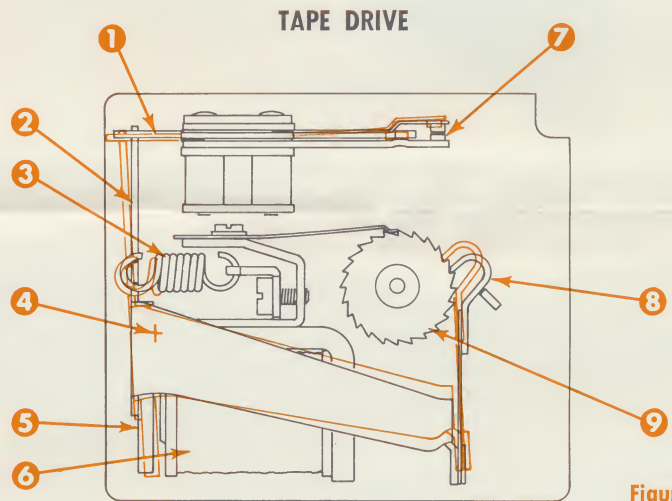

Figure 3
The method of feeding the tape is illustrated in Figure 3. When drive coil (6) is energized, armature (5) is attracted and moves about pivot point (4) to the position shown in blue lines, causing pawl (8) to engage the next tooth on ratchet (9). When the drive coil is de-energized, spring (3) returns the armature and steps the ratchet. The ratchet is fixed to the tape sprocket shaft.